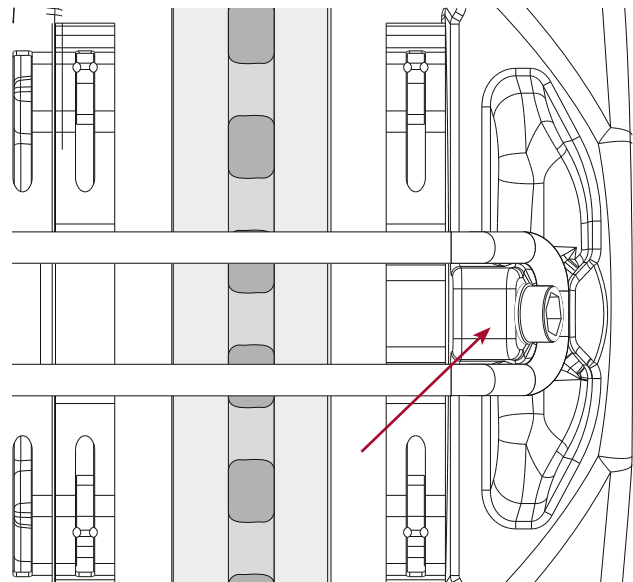

Figure 135: Dial Gauge Measuring Point on Calliper
2. Attach dial indicator firmly to brake carrier or axle. Mount so that the measuring pin touches the calliper at a convenient point near the pad retaining bar bolt. Refer Figure 135.